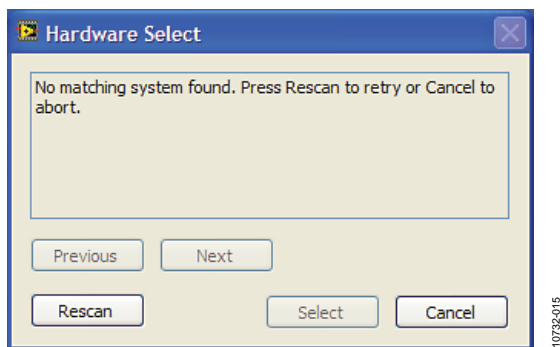

Figure 14. Connectivity Error Alert
2. If the AD7327/AD7328 evaluation system is not connected to the USB port via the EVAL-SDP-CB1Z when the software is launched, a connectivity error displays (see Figure 14). Connect the evaluation board to the USB port of the PC, wait a few seconds, click **Rescan**, and follow the instructions.